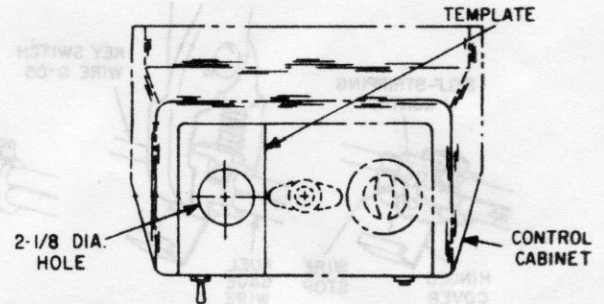

Figure 3
3. Place the supplied template just inside the raised edge of the top surface of the control cabinet as shown in Figure 3.
2. Place the supplied template just inside the raised edge of the top surface of the control cabinet as shown in Figure 3.